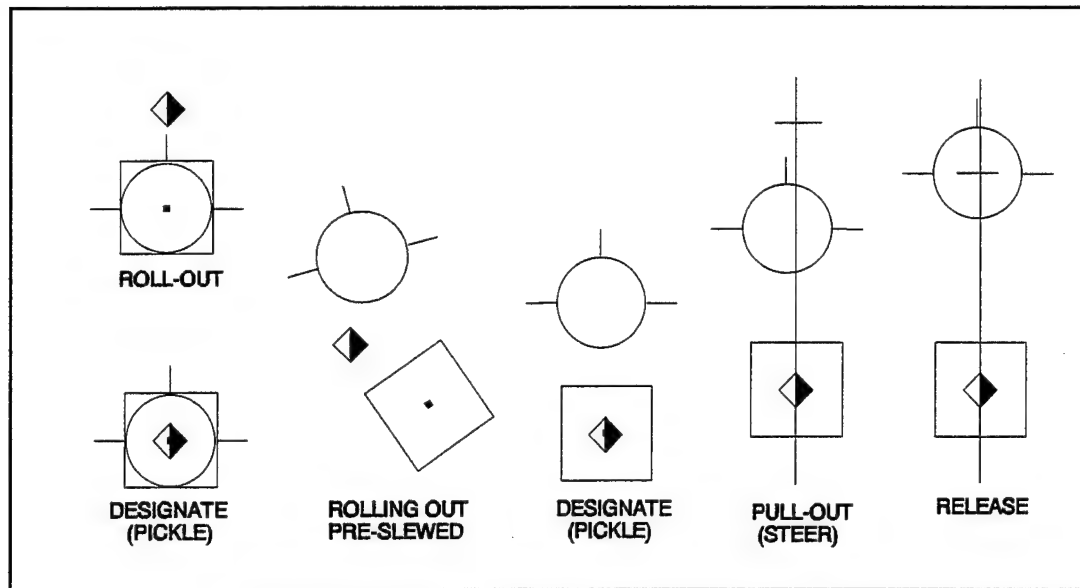

FIGURE 3.10 DTOS-Point Blank Aiming
(5) Fly out the azimuth error and insure you hold the pickle button down when the solution cue approaches the flight path marker.
(6) Execute a standard recovery when the bomb release occurs and/or in time to adhere to recovery minimums.
(7) Continue in the pattern as briefed using the score and other observations to improve the accuracy of the next pass.
b. Point-Blank Aiming. Point-blank aiming is the simplest method from a mechanical pilot skill standpoint (See Figure 3.10).
(1) Roll out on final approach with the FPM and caged TD box short of the target. Since the TD box is initially HUD stabilized you may "pre-slew" the TD box slightly below the FPM. Some find this helps them get the TD box on the target but beware of pendulum effect since the TD box is not yet ground stabilized.